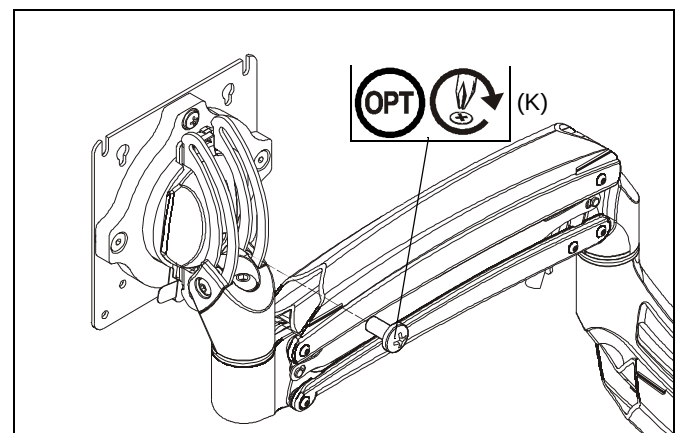

Figure 20
NOTE: In order to prevent display from being easily removed from mount using the quick release lever, install M4x4mm security screw (K) into lower hole on back of faceplate. (See Figure 20)